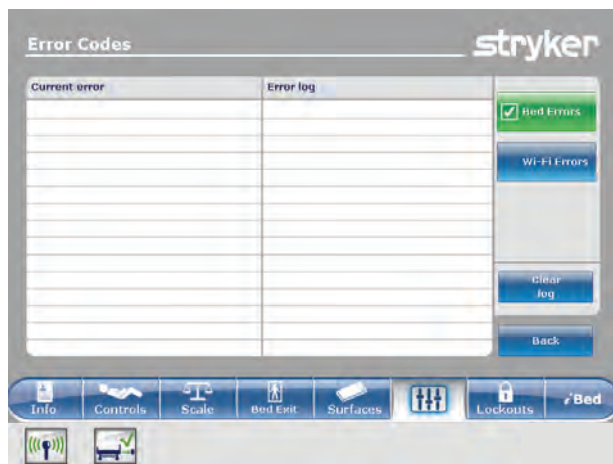

Figure 1-92: Error Codes
**Error Codes:** Displays the current active errors and the error log (Figure 1-92 on page 1-82). See the **InTouch** maintenance manual for the definition of the error codes.